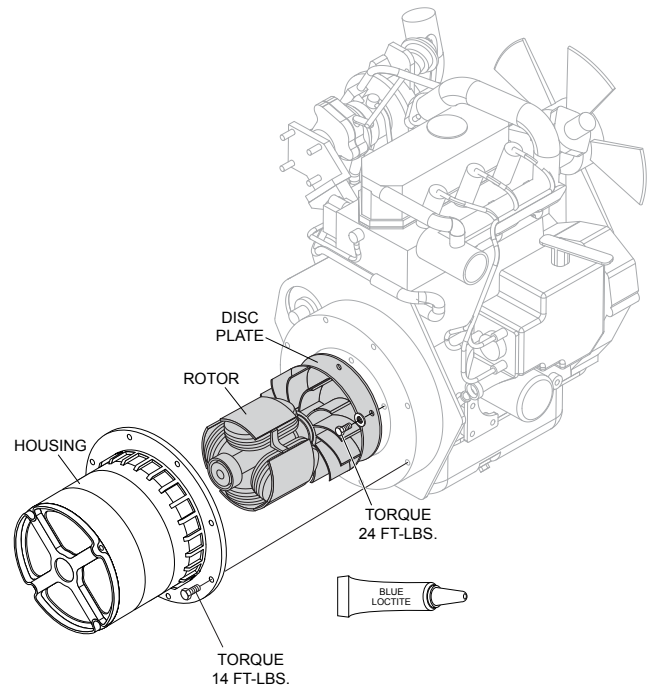

Figure 22. Attach New Style Generator
2. Attach generator disc plate and housing to engine flywheel. See Figure 22.